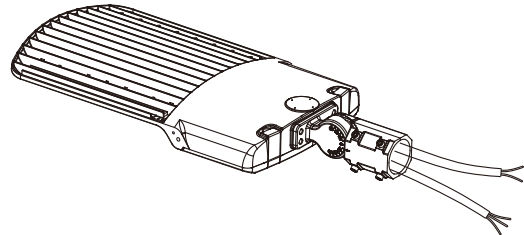

Figure 2
- Attach the Slip Fitter Part B and the Slip Fitter Part A and fasten the Locking Bolt. (Figure 2)